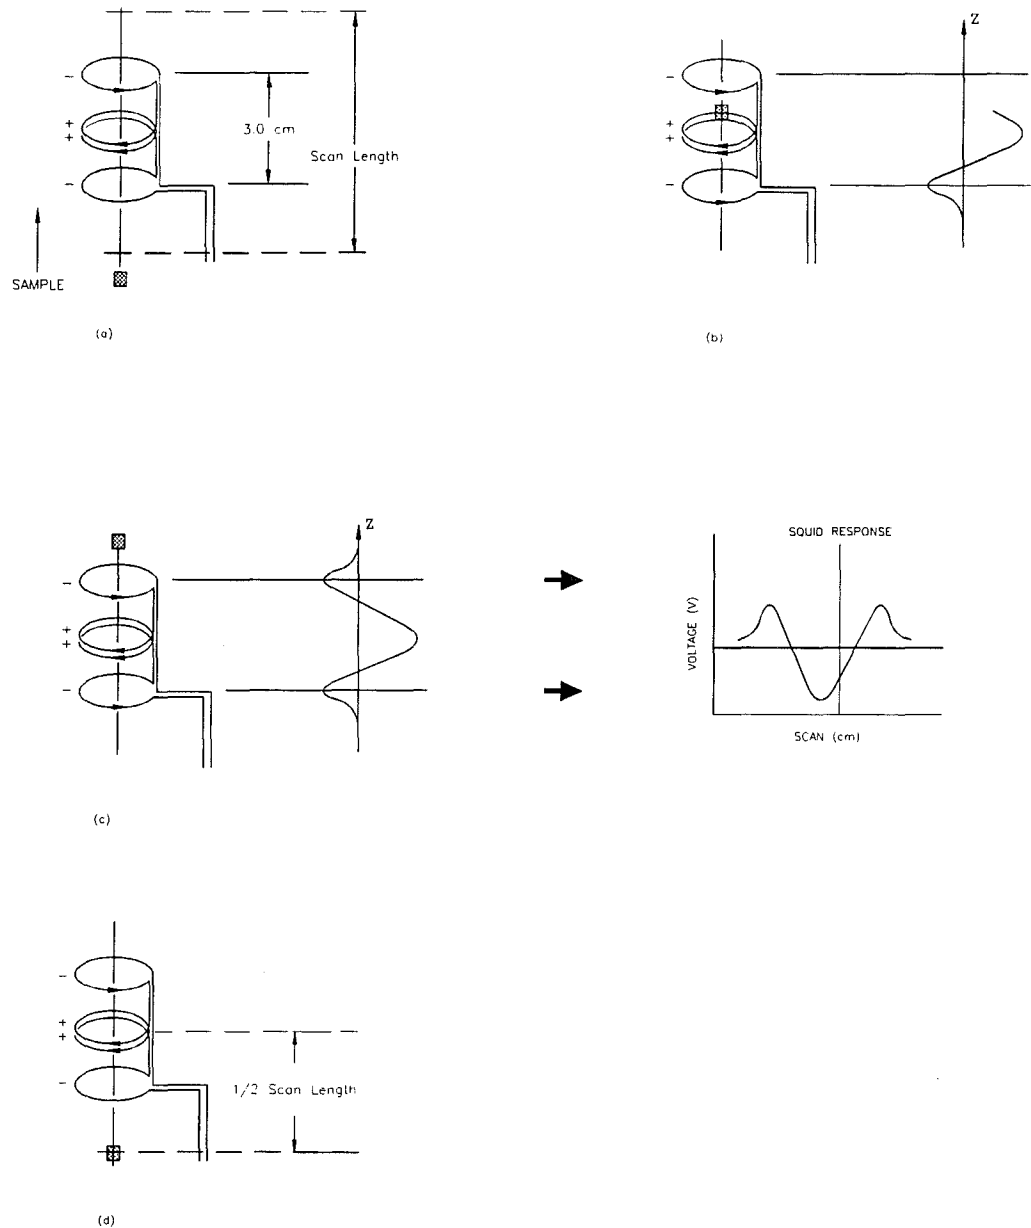

Figure 3-7. DC Centering Measurement and Measured SQUID Voltage Response
As soon as you initiate the centering measurement, the sample transport moves upward, carrying the sample through the pickup coils. While the sample moves through the coils, MPMS MultiVu measures the SQUID's response to the magnetic moment of the sample and saves all data from the centering measurement to the centering scan data, or `center.dc.lastscan`, file. Status messages appearing at the top of the **DC Centering** dialog box identify the specific task MPMS MultiVu is performing. Figure 3-7 on the following page illustrates the progress of a centering measurement.
2. Examine the plot of the `center.dc.lastscan` file to determine whether the sample is centered in the SQUID pickup coils. Refer to figure 3-7. The sample is centered when the peak of the large, middle curve is within 0.05 cm of the half-way point of the scan length. In a 6-cm scan, for example, the sample is centered when the peak of the middle curve is within 0.05 cm of the 3-cm point.